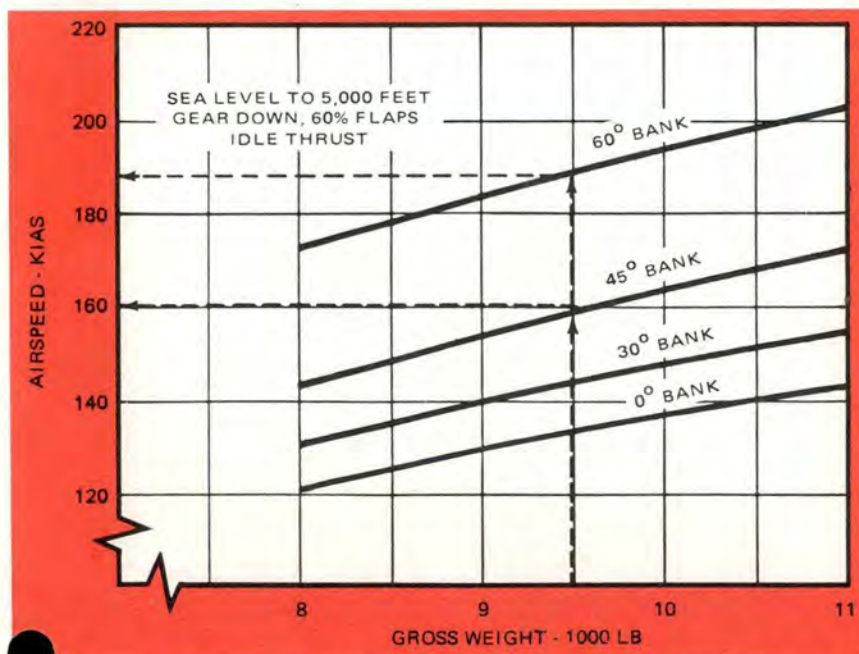

Figure 2. Talon Stall Speed Chart. Stall speed increases by large amounts when bank exceeds 45° in a level turn. (Power on stall speeds would be a bit lower.)
**OVERBANK:** There is a tendency to bank too steeply while keeping the runway in sight during the circling maneuver in marginal visibility. This really jacks up the stall speed (Figure 2). Steeper bank angles can place the aircraft in a condition of stall, high sink rate, or both. And recovery from those conditions may not be possible before ground impact.